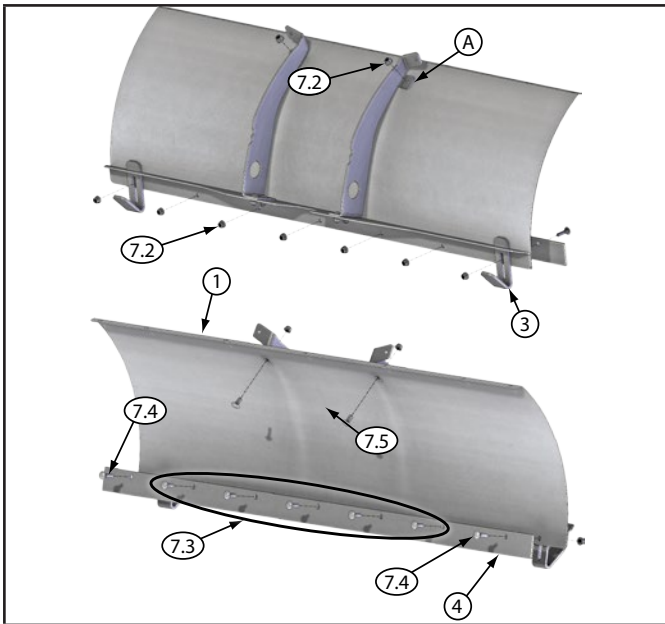

Figure 2 - Cutter Blade, Frame and Feet Install
2. Attach the blade frame assembly to the blade in location (A) using 5/16 x 3/4 in. (7.9 x 19.1 mm) short neck carriage bolts (7.5) and nuts (7.2). See Figure 2.
3. Next attach the wear bar (4) to the plow blade (1) by installing the five 5/16 x 1 in. (7.9 x 25.4 mm) standard carriage bolts (7.3) in the center through the cutter blade (4), plow blade (1) and support bracket (2). Secure the carriage bolts with 5/16 in. (7.9 mm) nuts (7.2). See Figure 2.
4. Install the blade feet (3) as shown in Figure 2 using the 5/16 x 1 1/4 in. (7.9 x 31.8 mm) standard carriage bolts (7.4).